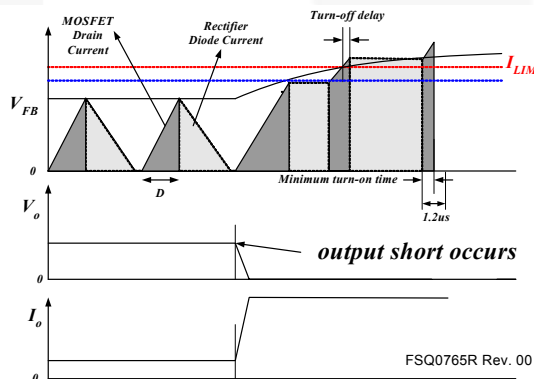

Figure 31. Output Short Waveforms
**4.3 Output-Short Protection (OSP):** If the output is shorted, steep current with extremely high di/dt can flow through the SenseFET during the LEB time. Such a steep current brings high voltage stress on the drain of SenseFET when turned off. To protect the device from such an abnormal condition, OSP is included in the FSQ-series. It is comprised of detecting  $V_{FB}$  and SenseFET turn-on time. When the  $V_{FB}$  is higher than 2V and the SenseFET turn-on time is lower than 1.2μs, the FPS recognizes this condition as an abnormal error and shuts down PWM switching until  $V_{CC}$  reaches  $V_{start}$  again. An abnormal condition output short is shown in Figure 31.